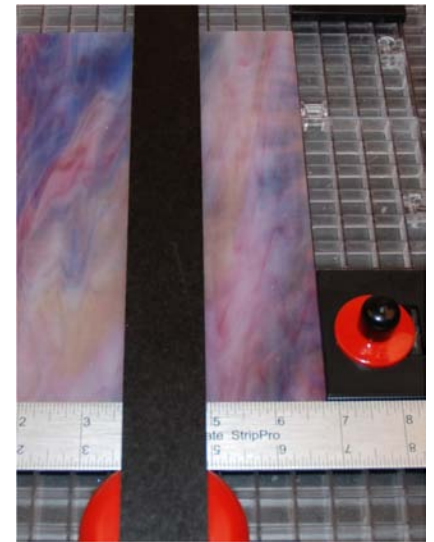

figure 3
3. Lock your glass stop to that position. Then cut your glass to that width. (figure 3)